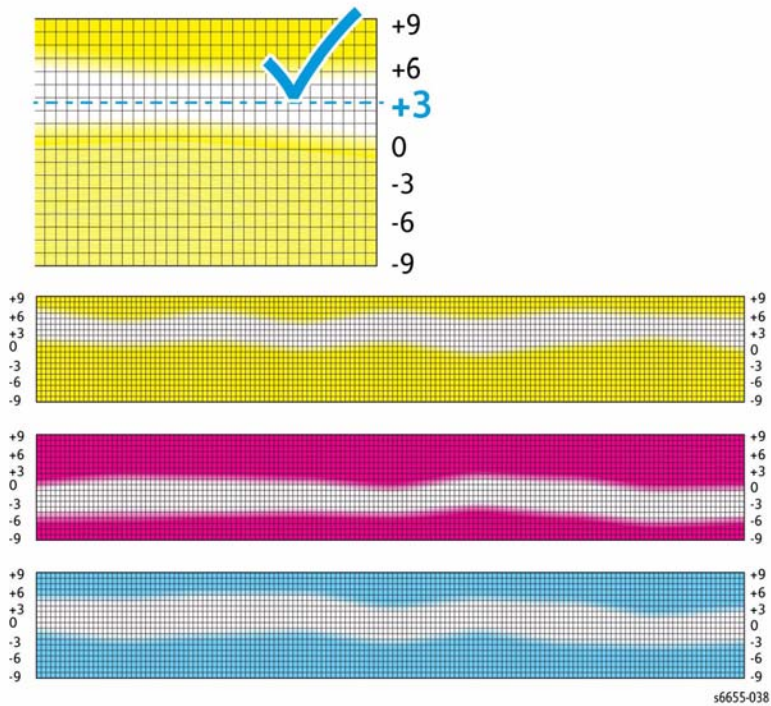

Figure 2 Circle the Number Representing the Middle of the White Zone
8. Align a straight edge through the middle of the white zone in each of the PY, PM, and PC charts. Circle the number at the end of each chart that represents the middle of the white zone. An example is shown in Figure 2.